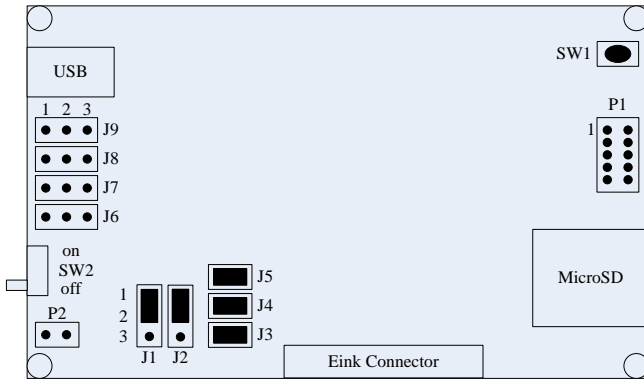

Figure 25. Correct Jumper Positions for Motion Switch Demo with Coin Cell Supply
1. Verify that the jumpers are configured as shown in Figure 25. Take off jumpers on J6-J9 for microcontroller normal operation if you want to test system current consumption with coin cell power supply. You can also configure the
2. Coin Cell, all the portable demo shows or user portable applications verification can be supported by coin cell. When using coin cell supply, please make sure the jumpers J1 and J2 is at 1-2 position as shown in Figure 25 (There are notes on PCB board). The following circuits are powered by coin cell output directly in default. Another optional supply path which go through low power LDO is also offered to user. To do this, remove 0 Ohm resistor R24, solder 1uF capacitor at C30 and C31 position, solder ADP160AUJZ-2.7-R7 at U9 position. The on/off of coin cell can be controlled by SW2.